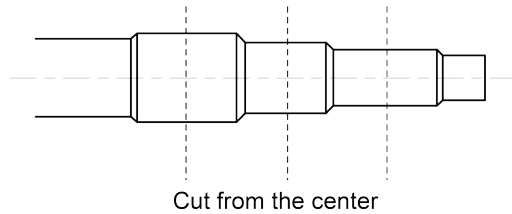

Fig.4.3.3
(2) Manifold has several pipe sections with different pipe size, which facilitates to match with various copper pipe. Use pipe cutter to cut in the middle of the pipe section with different pipe size and deburr as well. See Fig.4.3.3.